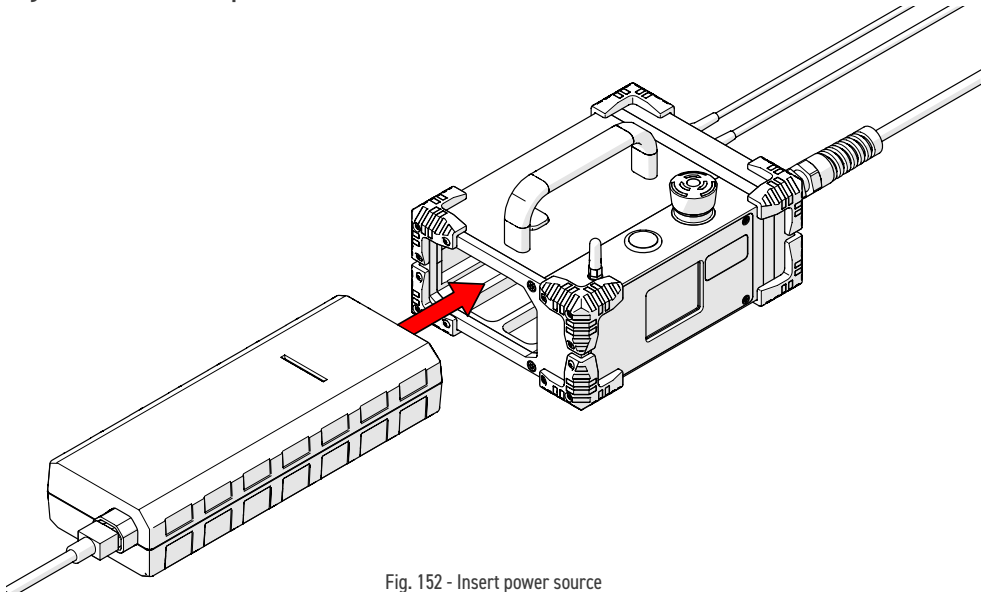

Fig. 152 - Insert power source
1. Insert the power source (Fig. 152) into the system controller dock.